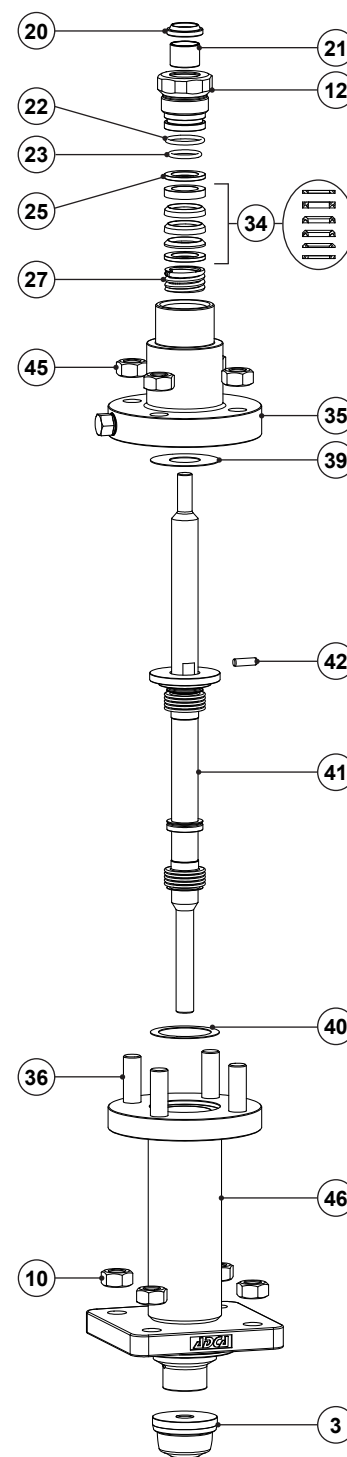

Fig. 12 - Bellows sealing (BV1)
1. Undo the nuts (45) gradually in a crisscross pattern and separate the bellows bonnet (35) from the bellows housing (46).
2. Unscrew the gland nut (12) and remove it carefully together with the O-rings (22, 23).
4. Apply a suitable lubricant to all stem sealing components and carefully slide them into the packing box according to Fig. 12.
5. Renew the scraper ring (20), plain bearing (21) and O-rings (22, 23) if necessary. Fit the O-rings (22, 23) and the gland nut (21), screwing it loosely.
6. Undo the nuts (10) gradually in a crisscross pattern and separate the bellows housing (46) from the valve body (1).
7. Firmly fix the valve plug (3) on a vise, fit a wrench on the two slits close to the locking pin (42) and unscrew the plug (3) from the stem (7).
8. Remove the valve stem (7) with the bellows (41) from the bellows housing (46).
10. Fix the new valve plug (3) on a vise with the thread facing up. The vise jaws should be gripping the plug section with the largest diameter.
11. Fit a new gasket (39) and insert the new bellows (41) on the bellows housing (46).
12. Apply a suitable high temperature adhesive compound on the lower stem (7) thread and screw it onto the seat, tightening with 50 Nm (DN 15 to 50 – 1/2" to 2") and 120 Nm (DN 65 to 100 – 2 1/2" to 4").
13. Insert the pin (42) onto the stem (7) and fit a new gasket (39).
14. Align the center of the bellows bonnet (35) with the stem (7), sliding it carefully while aligning the pin (42) with the slit.